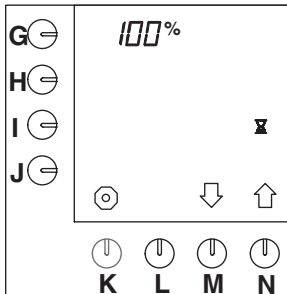

Fig. 35 Pause time 100%
- Press selection key (N.)↑ until fig.35 appears on the display.